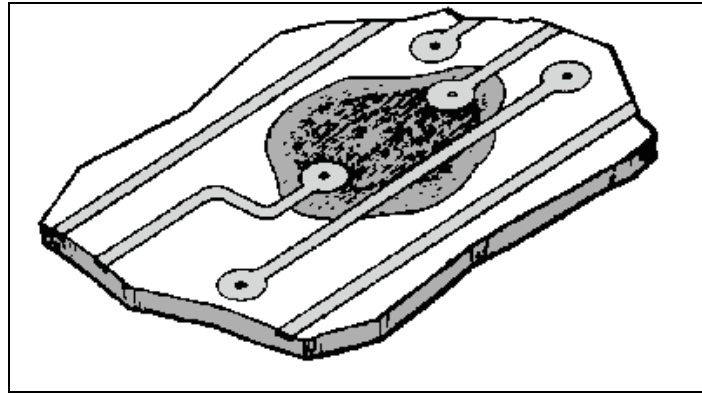

Figure 3-30.—Repaired board ready for components.
11. If necessary, needed holes are redrilled in the damaged area, runs are replaced, eyelets and components are installed, and the area is cleaned. Figure 3-30 shows the repaired area ready for components.